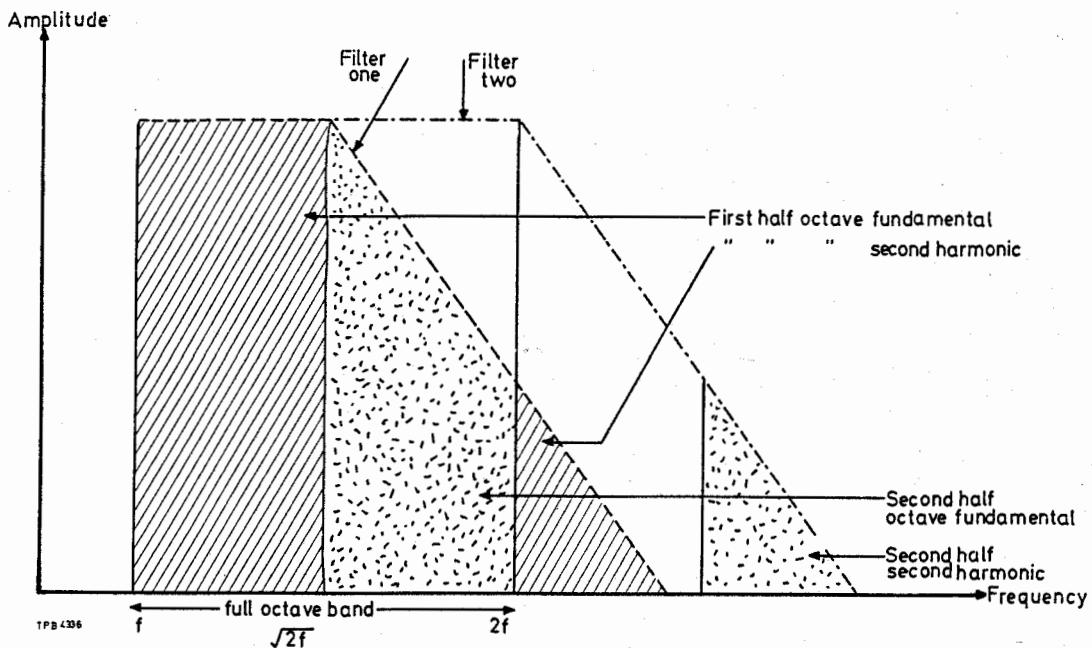

Fig. 7 First and second half octave filter characteristics (AA31)
26. The use of two filters per range, i.e. upper and lower half octave, is necessary to satisfactorily reduce the second harmonic of the lower half octave signal, see Fig. 7.